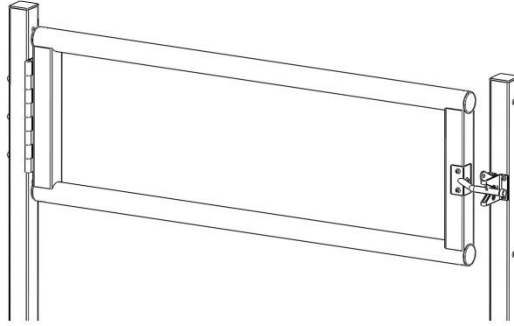

FIG. 6.26
- 6.10. **GATE:** The MUG36 (MODULAR GATE 36") can be installed to swing either direction. Determine which side the hinge should be on and the direction the gate should swing before (FIG. 6.26).